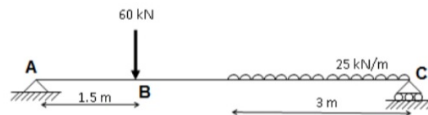

Fig. 3
3. Using unit load method, determine the deflection under the concentrated load and the slope at the right hand side support of a beam, span 6 m, supported and loaded as shown in Fig. 3. [15]